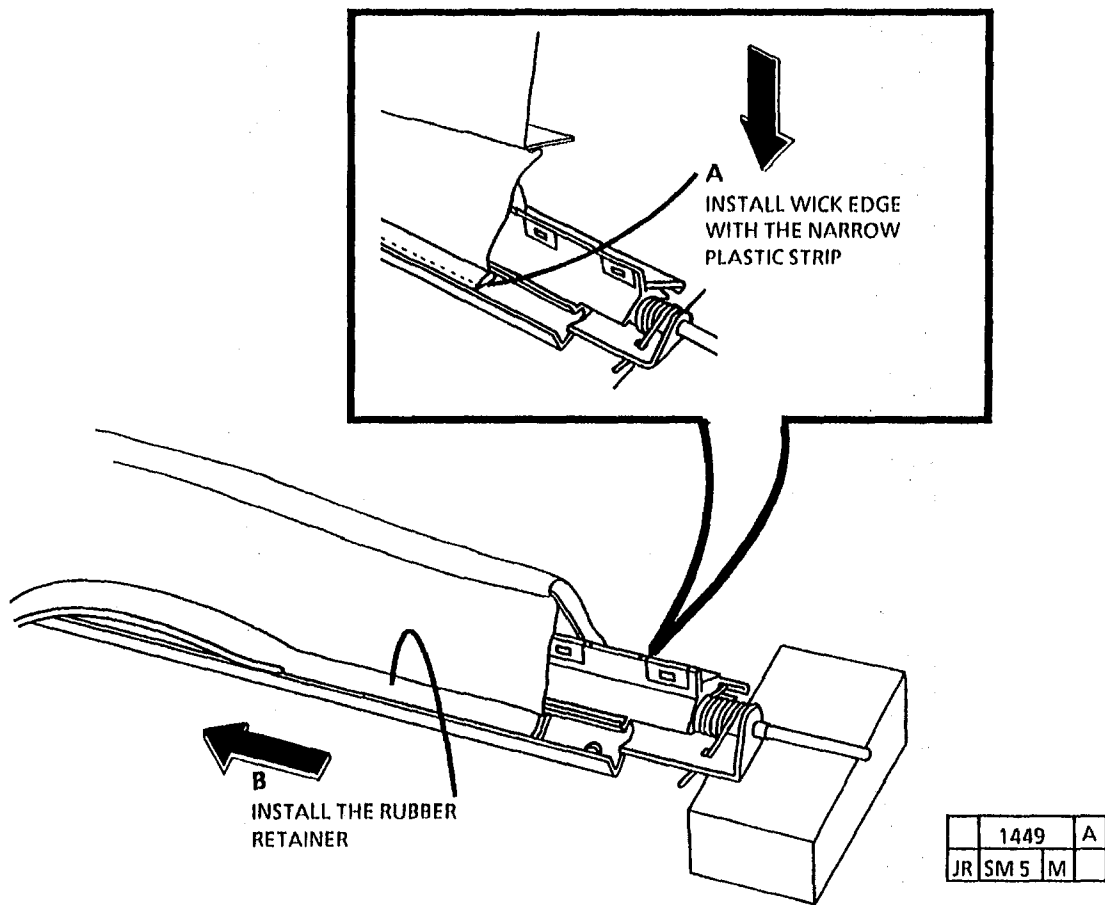

Figure 3. Install the Wick edge with the narrow plastic strip
1. (Figure 3): Install the wick edge with the narrow plastic strip.